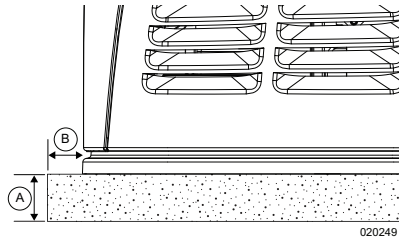

Figure 3-4. Pea Gravel or Crushed Stone
See Figure 3-4. Prepare a rectangular area approximately 5 in (127 mm) thick (A) and approximately 3 in (76.2 mm) longer and